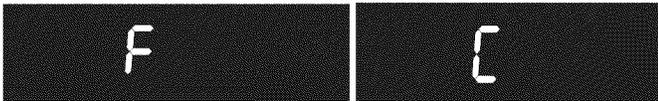

Figure 6: Display showing Fahrenheit and Celsius
2. Once F (or C) appears in the display, press **Self Clean** to toggle between Fahrenheit and Celsius temperature display modes (Figure 6).